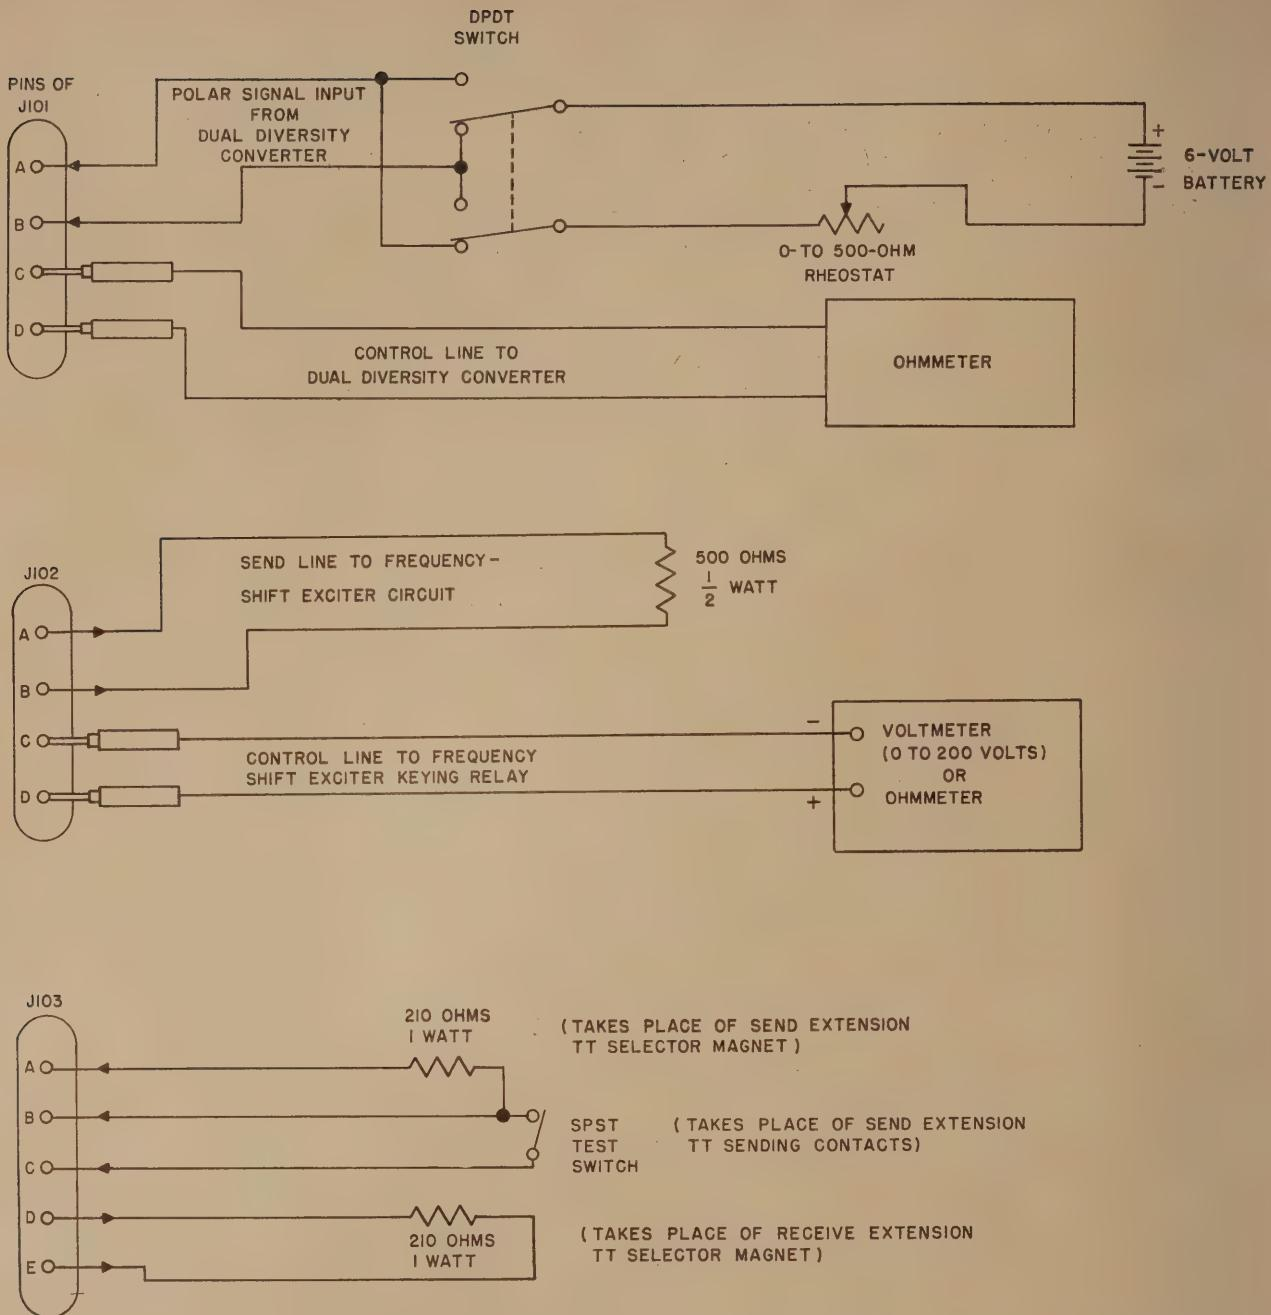

Figure 26. Test set-up for control unit.
a. *Test Set-Up.* A bench check of the control unit for observation and determination of faulty operation can be accomplished with a minimum of equipment and parts. The test set-up outlined in figure 26 is required. The three resistors, the SPST (single-pole, single-throw) switch, the DPDT (double-pole, double-throw) switch, the rheostat, the 6-volt battery (capable of supplying 25 ma), the voltmeter, and the ohmmeter should be connected to jacks J101 through J103 on the rear of the control unit. By removing and reconnecting the leads, one multimeter may be used in place of the
c. *Front Panel Control Settings:* After the test resistors and the SPST switch test connections (fig. 26) have been made to J102 and J103, connect the primary power cable to J107 on the rear of the control unit and to a 115-volt, 60-cycle primary power source. Set the front panel controls (fig. 4) as follows:
- (1) Throw the AC SUPPLY toggle switch on the front panel to the ON position. The white AC SUPPLY indicator lamp should light.
- (2) Throw the TRANSMITTER switch to the ON position. The green TRANSMITTER indicator lamp should light.
- (3) Turn the SERVICE switch to the FULL DX position.
- (4) Turn the OPERATION switch to the NORMAL position.
- (5) Turn the EXTENSION CURRENT knob to maximum counterclockwise position.
- (6) Turn the SENDING LINE CURRENT SPACE and MARK knobs to maximum counterclockwise positions.
- (1) Check to see that the AC SUPPLY switch is ON, the TRANSMITTER switch is ON, the SERVICE switch is in FULL DX position, and the OPERATION switch is in NORMAL position.
- (2) Check to see that the SPST test switch (fig. 26) is closed (on).
- (3) Turn the front panel METER knob to REC EXT CURRENT.
- (4) Press the RECEIVING TEST MARK button on the front panel of the unit.
- (5) Adjust the EXTENSION CURRENT control until the meter indicates +75 to the right of zero center. Release button.
- (6) Press the RECEIVING TEST SPACE button. The meter should indicate zero. Release button.
- (7) Turn METER switch to BALANCE.
- (8) Raise lid on control unit and, with a screwdriver, adjust the BALANCE ADJ potentiometer while alternately pressing the RECEIVING TEST MARK and SPACE buttons. Continue this adjustment until the meter pointer swings to the same dial reading to the left and right of zero center. This reading should be between 70 and 80 when adjustment is finished.
- (2) Turn the METER knob to the SEND LINE CURRENT position.
- (3) Make sure that the SPST test switch (fig. 26) is in the closed position.
- (4) Adjust the SENDING LINE CURRENT MARK control until the panel meter indicates +60 to the right of zero center.
- (5) Throw the SPST test switch to the open position. This simulates depressing the break key on the sending teletypewriter.
- (6) Adjust the SENDING LINE CURRENT SPACE control until the panel meter indicates —75 to the left of zero center.
- (7) Turn the METER switch knob to the SEND EXT CURRENT position. The meter should read zero.
- (8) Throw the SPST test switch to the closed position. The meter should read between +65 and +85 to right of zero center. In full-duplex operation this SEND EXT CURRENT is not adjustable.
- (9) Turn the SERVICE switch first to HALF DX then to ONE WAY. In both positions the SEND EXT CURRENT is controlled by EXTENSION CURRENT potentiometer and should be adjusted to +75 to the right of zero center on meter.
*h. Operating Check.* After the above checks have been made, an operating check of the control unit input circuit should be made. It is possible to make this check by means of resistance measurements, but occasionally trouble will occur in the input transformer which will produce faulty operation, but which will not be indicated by a continuity test. For this reason an adjustable source of d-c voltage is required to provide the 25-ma marking or spacing current for the input circuit. For example, in figure 26 a 6-volt battery in series with a 0- to 500-ohm rheostat is connected to a DPDT switch. Reversal of the switch position reverses current flow through the input circuit, thus simulating polar mark and space signal transitions. To perform the control unit input circuit test, proceed as follows (the control unit should be energized):
- Set the adjustable voltage control rheostat (fig. 26) so that maximum resistance is in the circuit.
When the indicated results are not obtained during one or more of the operational checks described in paragraph 41, consult the trouble-shooting charts below. Connections to J103, to pins A and B of J102, and to pins A and B of J101 are made as shown in figure 26. It is not necessary to make any connection to pins C and D of J101 and pins C and D of J102.